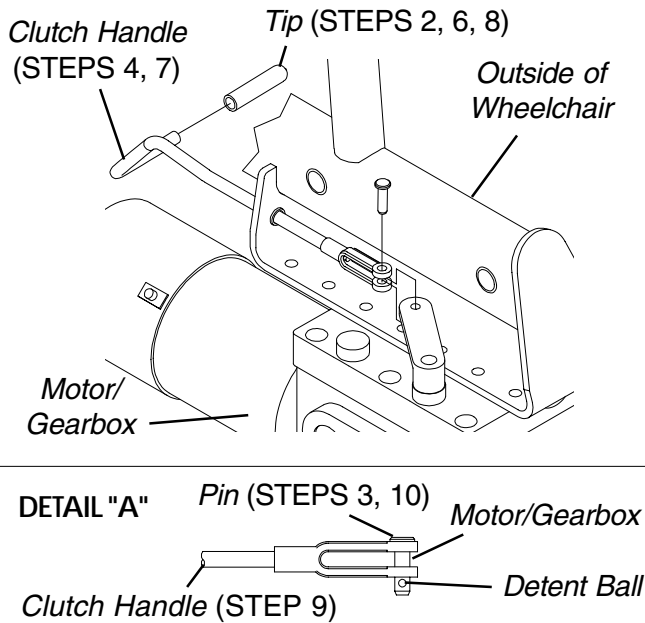

FIGURE 21 - REPLACING CLUTCH HANDLES - RANGER II FWD BASIC
REPLACING CLUTCH HANDLES - R2_{BASIC} AND R2_{JR} (FIGURE 21)
10. Insert the pin through the clutch handle and motor/gearbox as shown in **DETAIL "A"** in **FIGURE 21**.